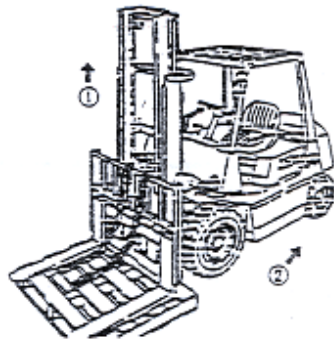

Figure 2-40
- (1) Place a salver on fork and park forklift on level ground
- (2) Lower fork and salver to ground
- (3) Dismantle upper end connector of chain and take off chain from chain wheel.
- (4) Lift inner mast (See ① Of Figure 2-40)
- (5) Make sure that fork carrier is separated from outer mast, back forklift (see ② of figure 2-40)
- (6) Replace Main Roller
- (A) Dismantle all spring retainer rings, take off main roller with drawing tools. notice to hold adjusting shim
- (B) Make sure that new roller is the same to the one to be replaced, fit new roller on fork carrier and clamp it well with elastic collar.